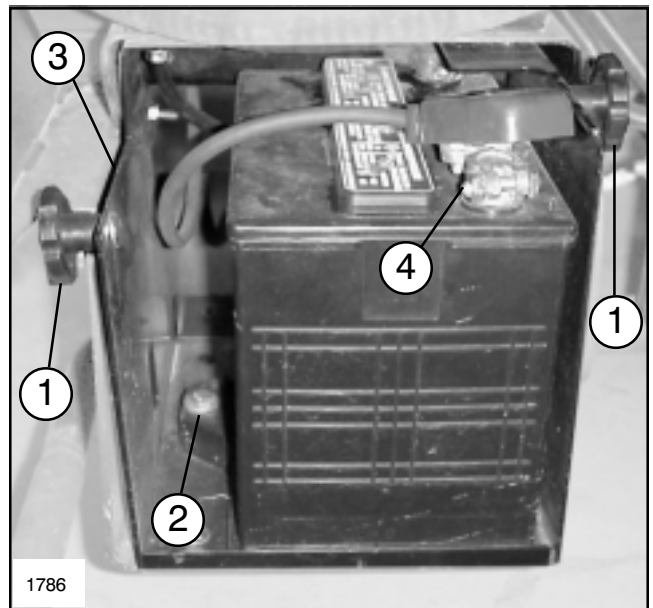

FIG. 1
1. Loosen knobs securing battery cover to battery base and slide cover off. (See FIG. 1).